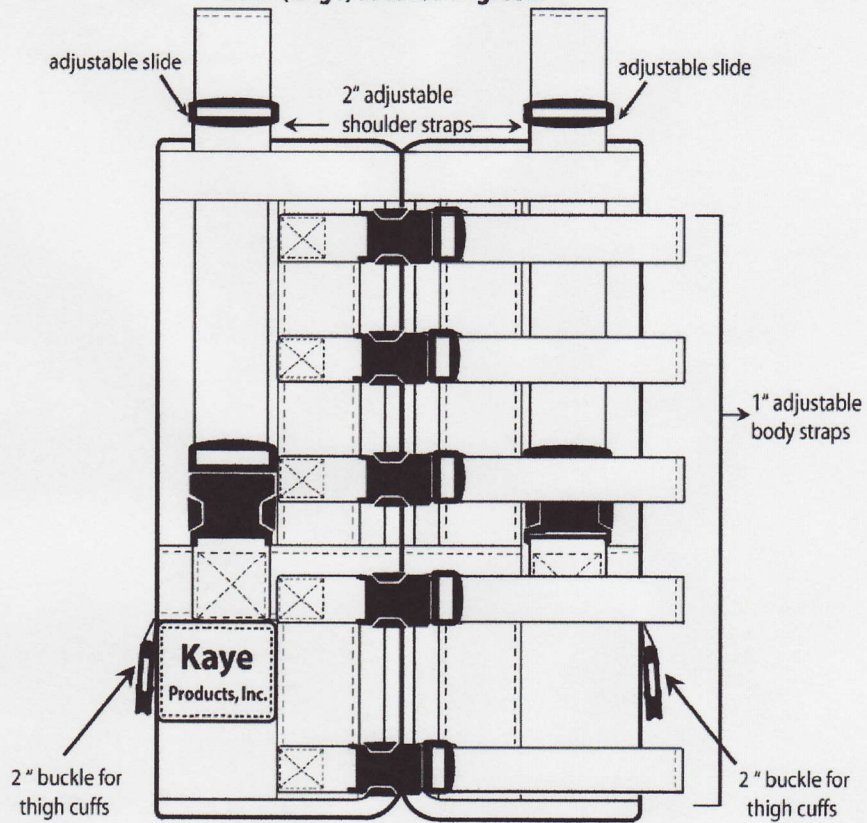

Figure 1: Front view of Body Vest (1 per harness)
2. Adjust the 1" buckles, front & back, so that the 2" buckles for the thigh cuffs (see figure 1) are **positioned symmetrically** on the **outside** of each hip. This may take several tries but this step is important.